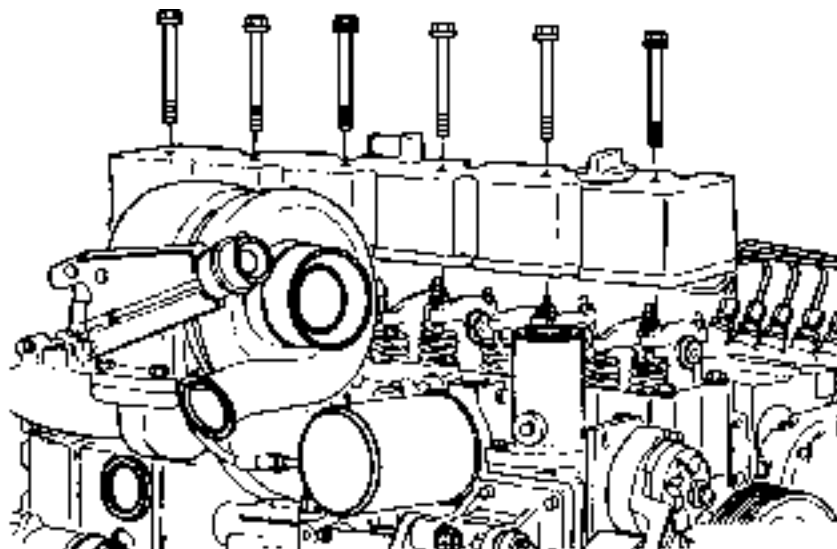

Fig. 5.16. Removal of Valve Covers.
3. Remove the valve covers (Fig. 5.16).